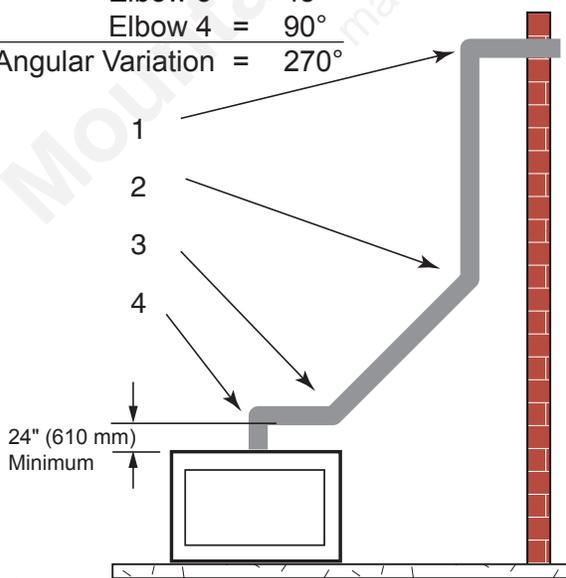

Figure 17 - Maximum Elbow Usage
- The maximum number of 45° elbows permitted per side wall installation is two (2). These elbows can be installed in either the vertical or horizontal run.
- The maximum number of elbow degrees in a system is 270°. Figure 17